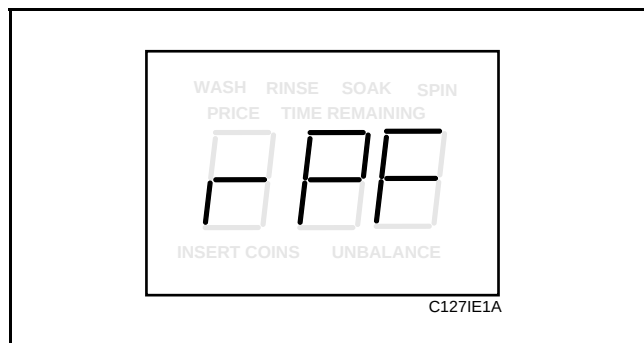

Figure 77
3. Press the DELICATES (+) pad or the COLD (-) pad to scroll through the programmable options until “rPF” appears in the VFD. See **Figure 77**.